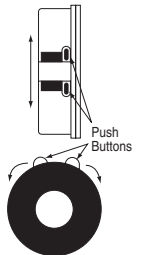

Figure 16
- Set upper limit by depressing and releasing the proper push button (see Fig. 16).